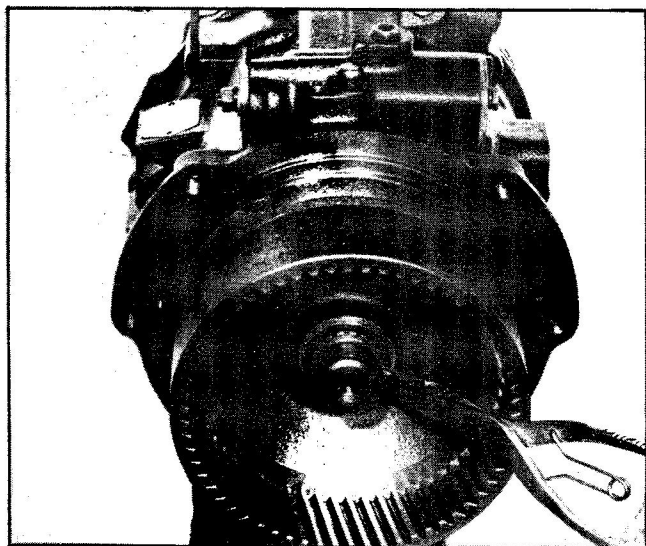

Fig. 61 Install Ring Gear to Output
2. Assemble ring gear hub over splines of forward and reverse transmission output shaft and install snap ring to retain hub to shaft, (Fig. 61).